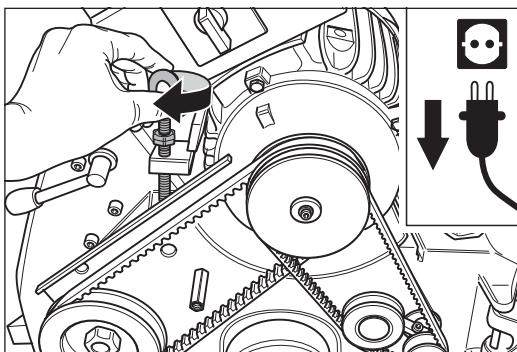

Fig. 63 Mount the V-belts and tension them by turning the eye bolt at the motor clockwise.
- 6 Mount the V-belts and tension them by turning the eye bolt at the motor clockwise (fig. 63).